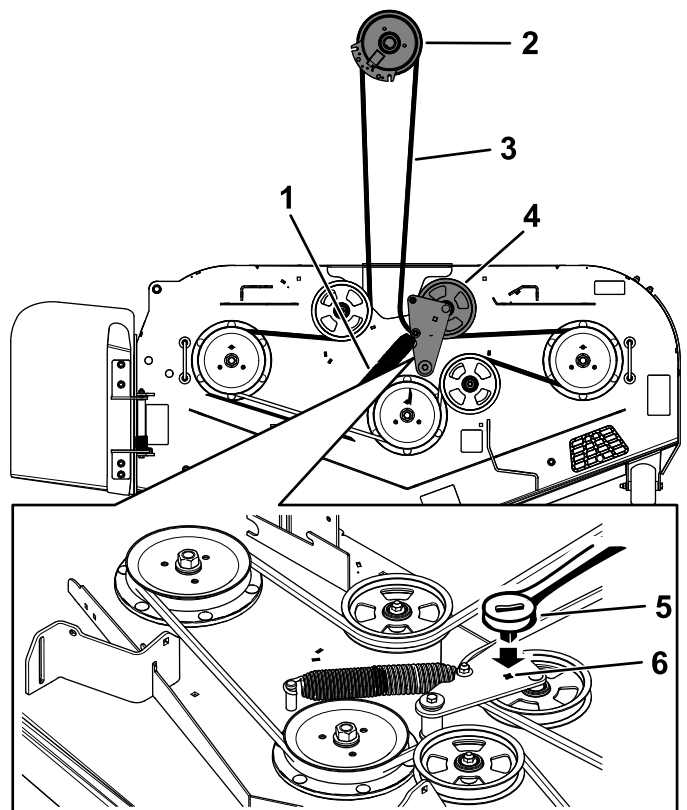

Figure 65
8. Use a 3/8-inch ratchet in the square hole in the idler arm to remove tension on the idler spring (Figure 65).
10. Remove the belt guide on the spring-loaded idler arm (Figure 65).
12. Install the new belt around the mower pulleys and the clutch pulley under the engine (Figure 65).
13. Install the belt guide on the idler arm (Figure 65).
14. Using the 3/8-inch ratchet in the square hole, install the idler spring (Figure 65).